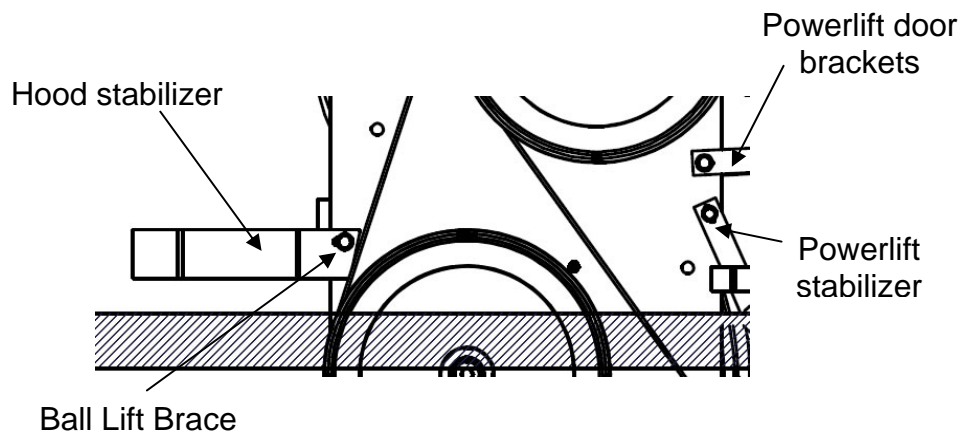

Figure 10, Ball Lift Brackets
4. Attach the hood stabilizer brackets in the location of the bolts that were removed in the previous step (as shown in Figure 10) using 5/16-18 x 1-1/4 hex cap screws and 11/32 x 11/16 x 1/16 flat washers. The lock nuts that were taken off of the Ball Lift Brace should be used again on the new bolts.
5. Attach the Powerlift Door Brackets to the Ball Lift with a 5/16-18 x 1/4 hex cap screw, 11/32 x 11/16 x 1/16 flat washers, and a 5/16-18 nylon lock nut (See figure 10).